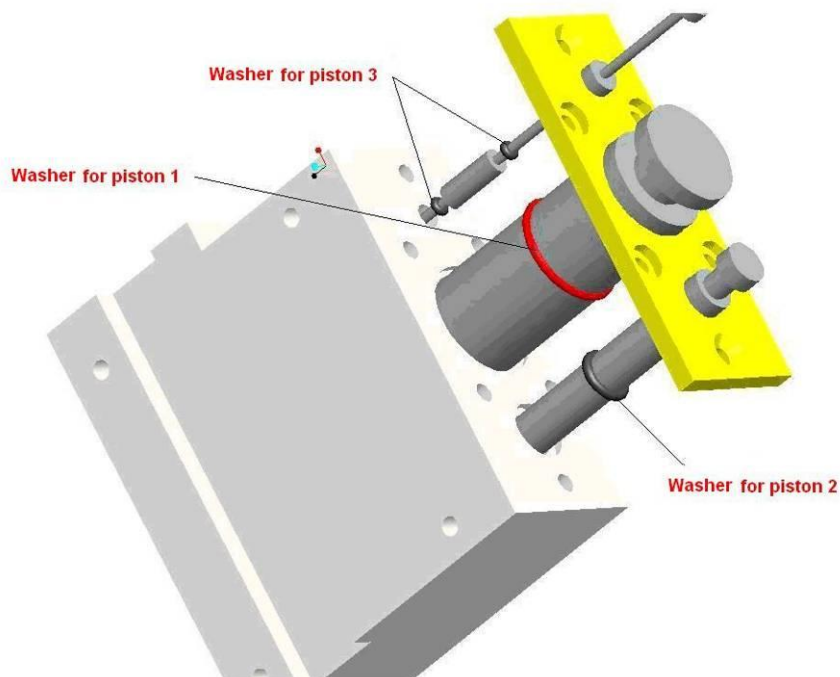

Figure 5-7
- 3) Take off the broken washer and replace new washer for each piston, smear the inside and outside of the washers with airproof lubricating grease and fix the syringe again, As show in figure 5-7: